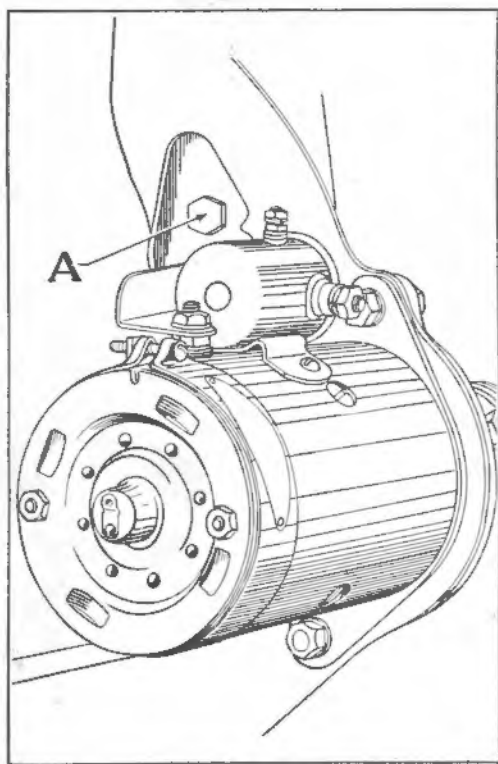

Figure 7
To insert the Hudsonite, turn the engine until the drain plug (A), Figure 7, in the front face of the flywheel is visible through the timing inspection hole in the left side of the rear engine plate. Remove the plug (A) and turn the engine slowly until the star stamped in the front of the flywheel is visible through the inspection hole. Allow a minute in this position to permit the clutch housing to drain, then turn the engine until the filler hole again appears in the timing hole and insert one-third pint of Hudsonite. Replace the plug and tighten securely. Hudsonite is available through all Terraplane and Hudson Distributors and Dealers.